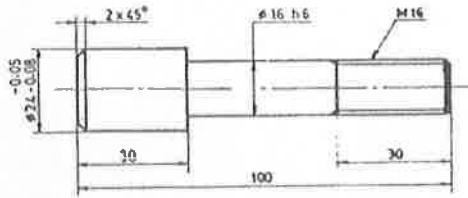

Fig.1
2. A locating pin is shown in Fig.1 is to be produced in workshop. Prepare an operation chart incorporating the following details